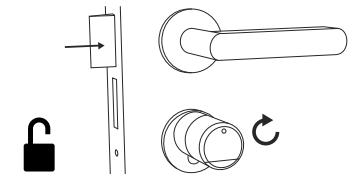
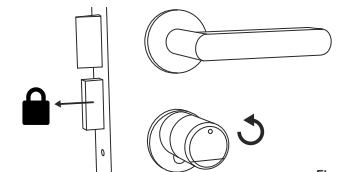

Fig. 9
Fig. 10
- 3 When the fingerprint entered is correct, the cylinder status symbol (⊙) will illuminate and the door can be unlocked (Fig. 9) or locked (Fig. 10).